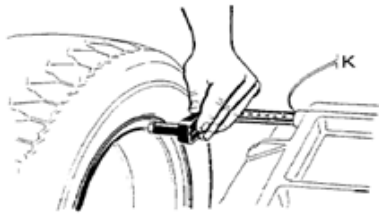

Fig.1
- Set “a” value: move the gauge to measuring position as illustrated as Fig.1, hold the gauge still in position for approx. 4 seconds, successful memorization is given, then return the gauge to position 0.(The value measured in automatic mode appear on the display). Or press  and  and  to change.